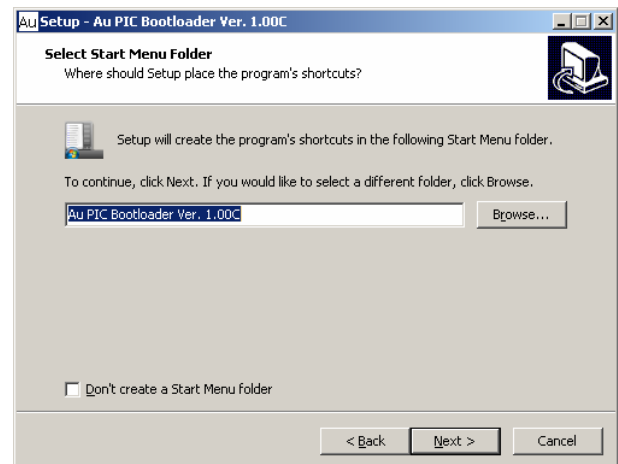

Figure C-5
5. "Select Start Menu Folder" window show up, use default setting "AU PIC Boot-loader", then click "next" (Figure C-5).